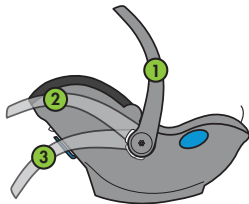

Figure 24
The Carry Handle has three adjustment positions as shown in **Figure 24**: Upright (1), Stowed (2), Ground (3).